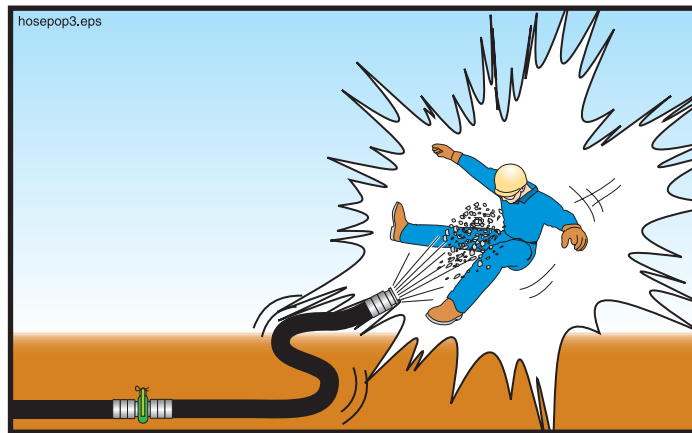

Figure 64
- **Do not use compressed air to blow out concrete delivery hose, single pipe sections and short pipelines up to a length of 40 feet.** Hoses will jump and move unpredictably; short pipelines don't have enough concrete to resist the force of the air, causing it to discharge too quickly, like a cannon (Figure 64).